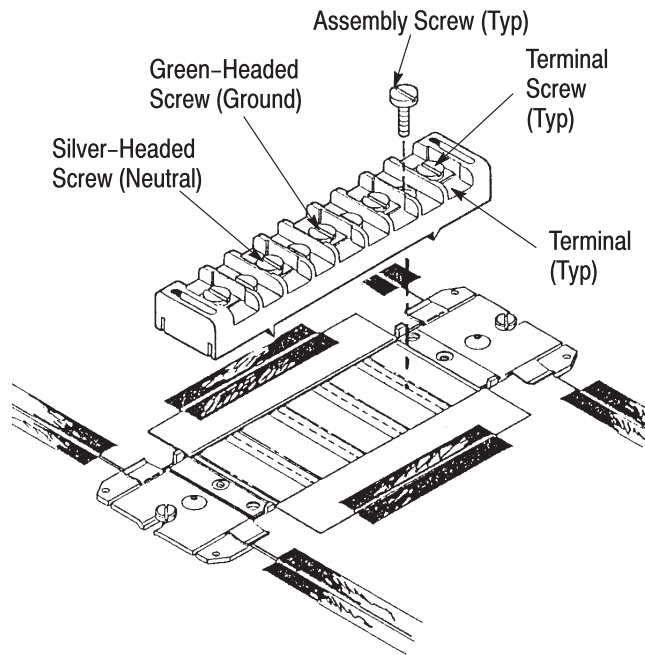

Figure 5
8. Mount transition block over cable, making sure that the silver-headed screw is in the neutral conductor and the green-headed screw is in alignment with the green conductor on the flat power cable. Place four screws into position. Place screwdriver on each screw and tap with hand to punch screw through cable. Screws should be tightened alternately from center positions to outside until all screws are tightened to 88.96 newtons [20-in. pounds]. See Figure 5.